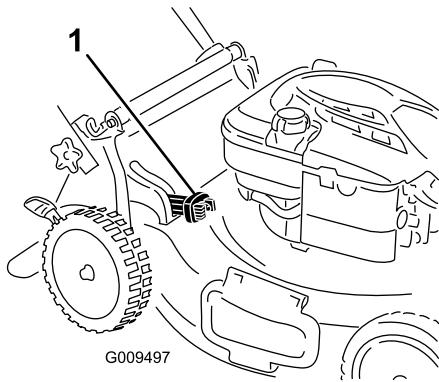

Figure 17
- For bagging the grass and leaf clippings, press the button on the bag-on-demand lever and move the lever forward until the button on the lever pops up (Figure 17)